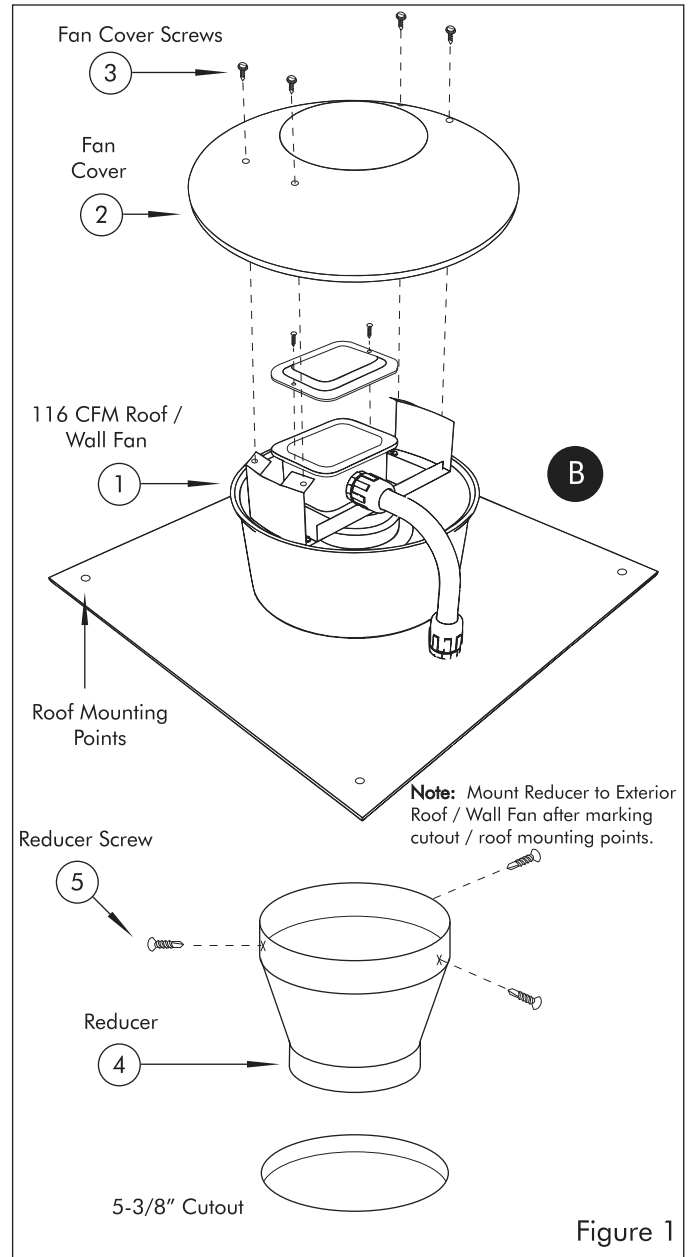

Figure 1
1. Select the location on the exterior roof or wall where the fan (1) is to be mounted. The base may be mounted directly on deck beneath roof shingles or upper edge of base plate may be slid underneath shingles.
2. Make a 5-3/8" hole through desired location (see figure 1).
3. Place fan (1) in desired location. Mark the location of the four base plate mounting holes and electrical knockout.